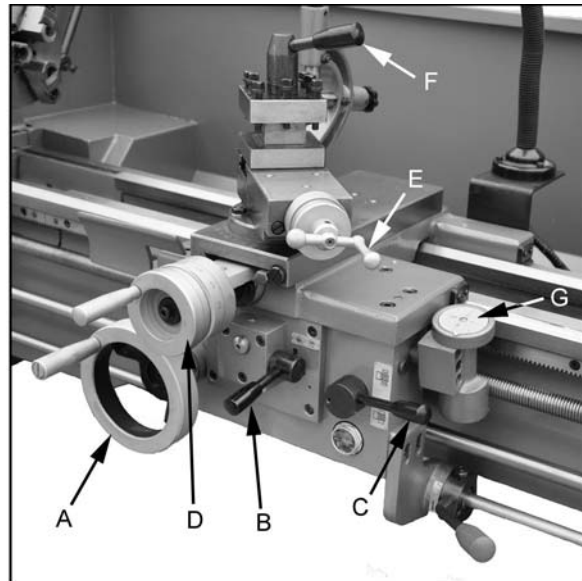

Figure 17
11. **Longitudinal Traverse Handwheel** (A, Fig. 17) – Rotate handwheel clockwise to move the apron assembly toward the tailstock (right). Rotate the wheel counter-clockwise to move the apron assembly toward the headstock (left).
12. **Feed Selector** (B, Fig. 17) – Push lever to the left and down to activate the crossfeed function. Pull lever to the right and up to activate the longitudinal function.
13. **Half Nut Engage Lever** (thread cutting) (C, Fig. 17) – Move the lever down to engage. Move the lever up to disengage.
14. **Cross Traverse Handwheel** (D, Fig. 17) – Clockwise rotation moves the machine toward the rear of the machine.
15. **Compound Rest Traverse Handwheel** (E, Fig. 17) – Rotate clockwise or counter-clockwise to move or position.
16. **Tool Post Clamping Lever** (F, Fig. 17) – Rotate counter-clockwise to loosen and clockwise to tighten. Rotate the tool post when the lever is unlocked.
17. **Threading Dial** (G, Fig. 17) – Engage by pushing into the leadscrew. Pull out to disengage. The dial indicator and chart will specify at which point a thread can be entered.